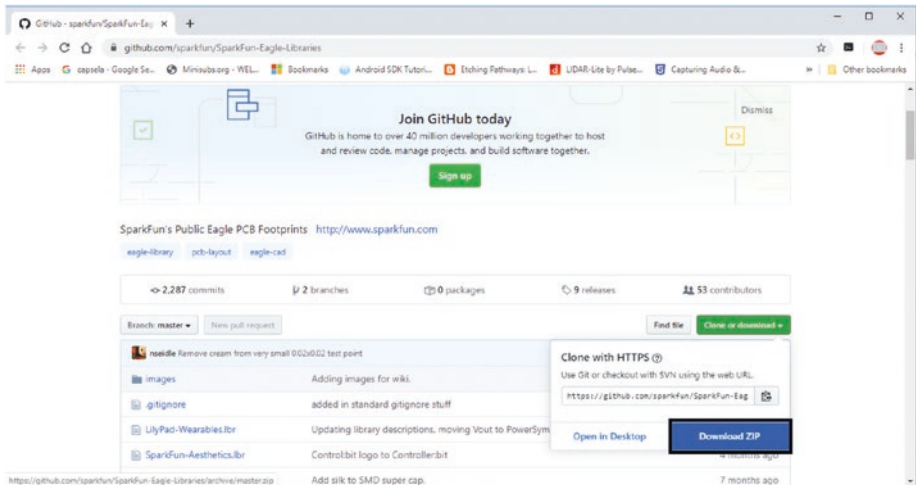

Figure 5-7. Download the SparkFun Eagle library
5. Download the SparkFun Eagle library. See Figure 5-7.